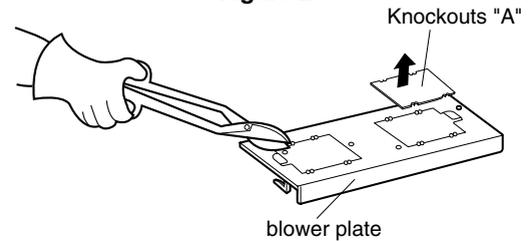

Figure 21 (Optional)
5. Use side cutter or tin snips to cut and remove knockouts "A" from blower plate. Discard knockouts. Be careful not to distort the plate. See Figure 21.